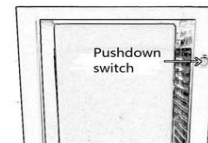
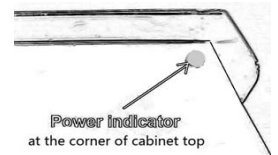

Fig. 2
Fig. 3
- When wiring is completed, test the power by pressing the pushdown switch (Fig.2) in the front of the cabinet. If there is power, the power indicator (Fig. 3) will illuminate.